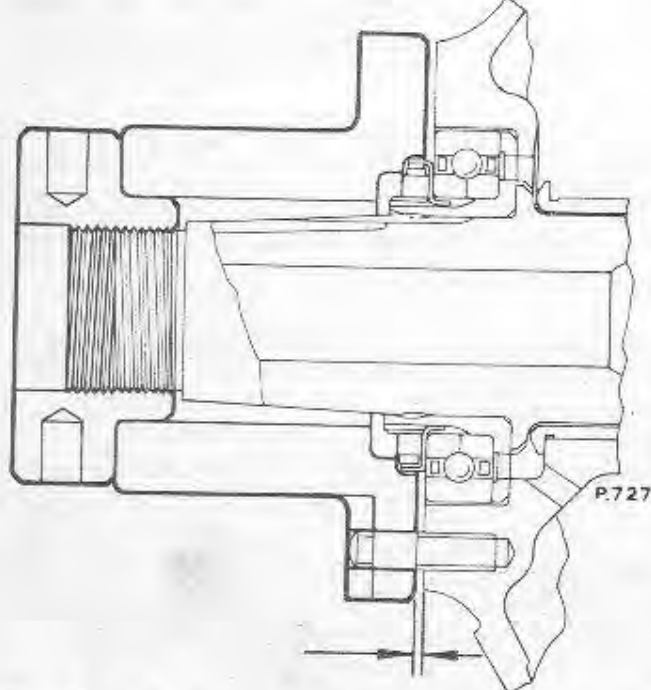

Fig. 2. Checking the front cover and thrust bearing nip
- (7) Slide the idler gear on to the spindle so that the straight spur gear is nearest the crankcase rear wall.
- (8) Fit the washer and screw on the lock nut.
- (9) Check the gear for freedom to rotate and measure the end-float. If the end-float is incorrect, remove or add shims between the gear and the thrust bearing to obtain the correct value.
- (10) Lock the plug at the forward end of the idler spindle.
- (11) Fit a split pin, Part No. 1300-SP2 to the locknut, wrapping the legs of the split pin round the hexagon of the nut as for a moving component (*fig. 2 Chap. 15*).
18. The nip between the outer race of the thrust bearing and the front cover must be checked as shown in fig. 2 to ensure that it is within the limits. Fig. 2 illustrates the method of using the thrust bearing fixture and special nut to determine the thickness of shims required.
- (1) Assemble the thrust bearing fixture T85998 on the front end of the crankshaft and secure it with nut T85999 as indicated in fig. 2.
- (2) Use feeler gauges to measure the gap between the fixture and the front of the crankcase.
- (3) Remove the nut and fixture.
- (4) SUBTRACT the specified nip from the dimension measured in OP.2 and select packing shims to give a thickness equal to the resultant dimension.